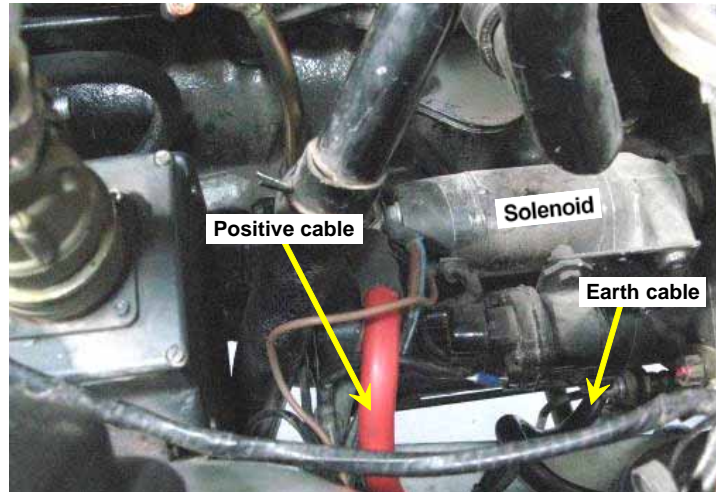

Figure 25 Starter Motor Connections
- (11) Connect the 8 mm lug on the end of the red (positive) cable to the 8 mm terminal stud on the starter motor solenoid and the 12 mm lug on the end of the black (earth) cable to the lower starter motor mounting stud as shown in Figure 25. Scrape the starter motor housing around the mounting stud back to bare metal to ensure a good earth connection.